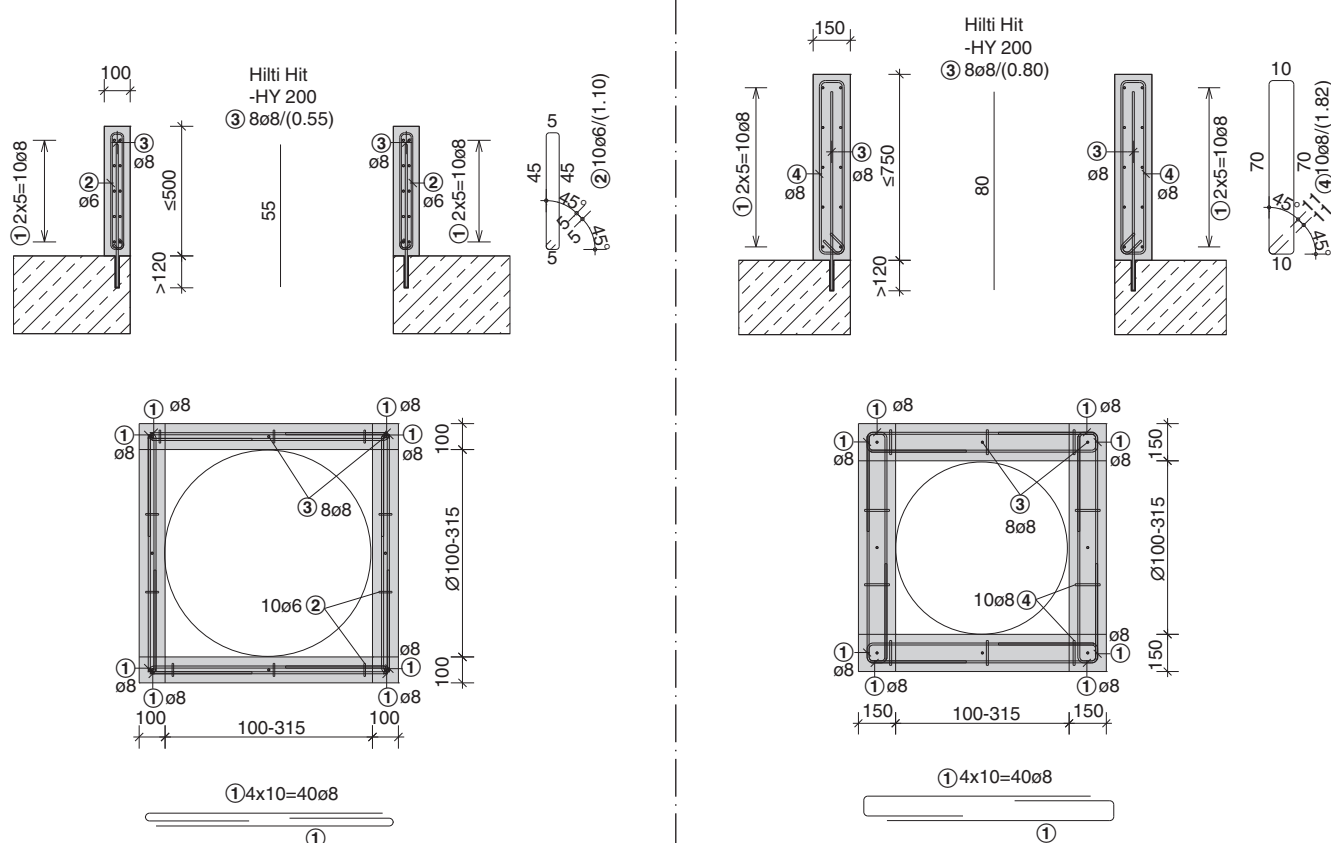

Fig. 15: Reinforcement plan for concrete base with a height of 500 mm or 750 mm
2. ▶ Create concrete base, for a reinforcement plan see Fig. 15.